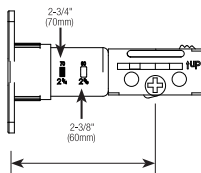

Figure 1d
- Rotate the cylinder cover counter clockwise so that the marking aligns with the 2-3/4" (70mm) position indicator (Figure 1d).